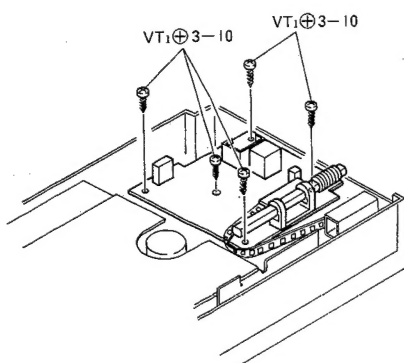

Fig. 3
- 1) Remove the 5 screws. (See figure 3)